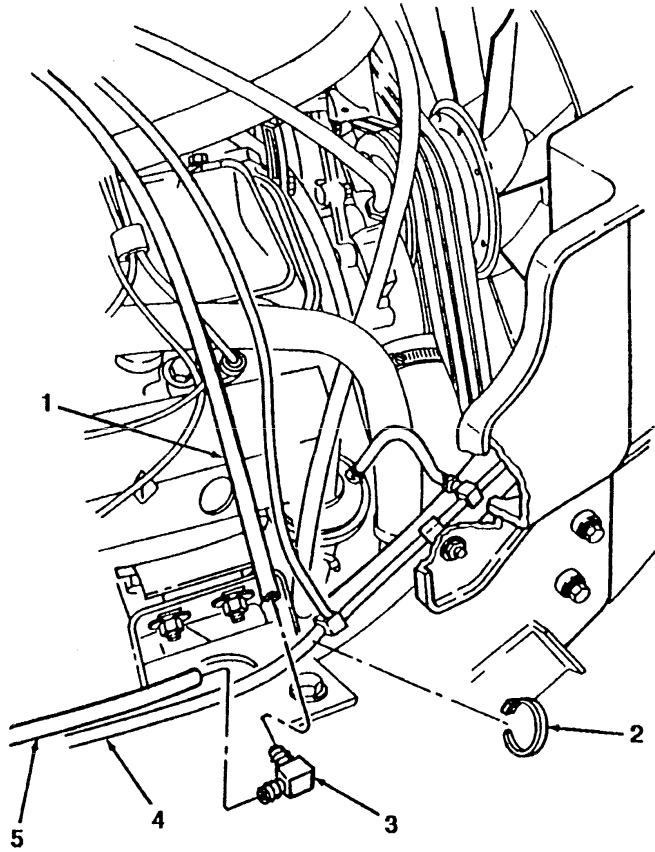
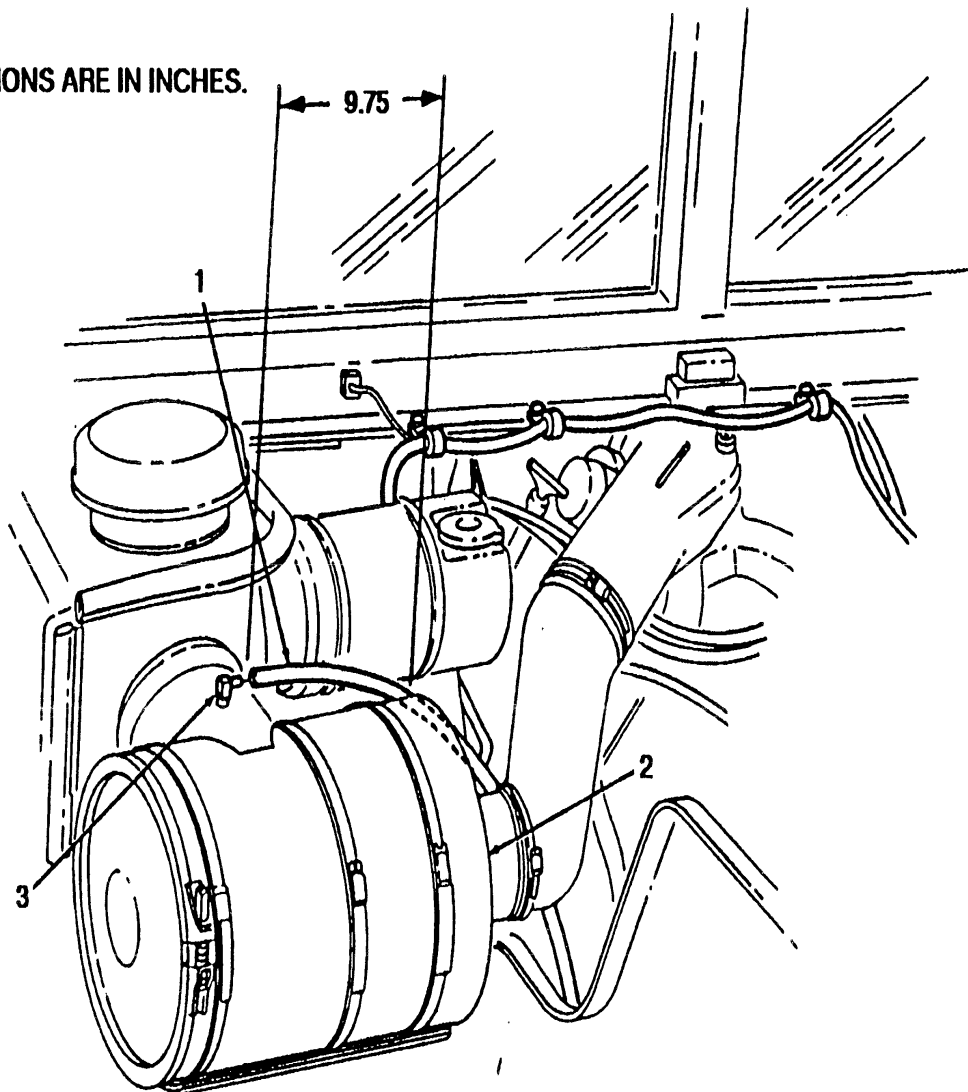

FIGURE 3-17
FIGURE 3-18
23. Connect hose (5) to NSN 4730-01-211-0896 elbow (3). (see figure 3-17)
24. Using NSN 5975-00-074-2072 tiedown strap (2), secure hose (4) to hose (5).
25. Remove hose (1) from elbow (3) on air cleaner (2). (see figure 3-18)
27. Cut 9.75-inches off of vent line (1). (see figure 3-18)
29. Connect the 15.75-inch piece of hose (1) to elbow (3). (see figure 3-17)